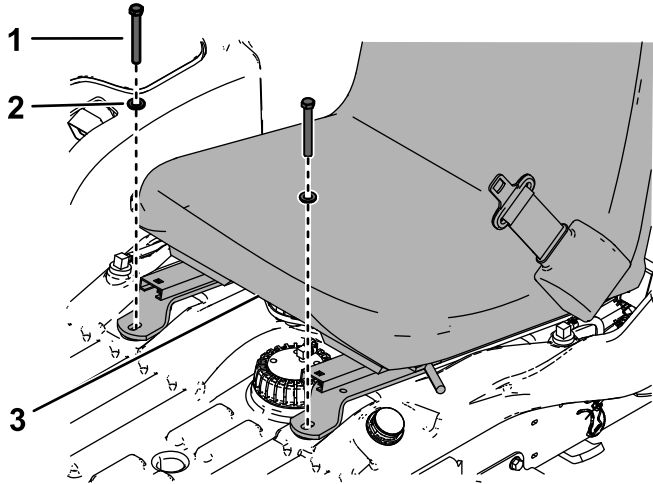

Figure 3
3. Remove and retain the 2 front seat bolts and washers, unplug the wire harness under the seat, and remove the seat (Figure 3).